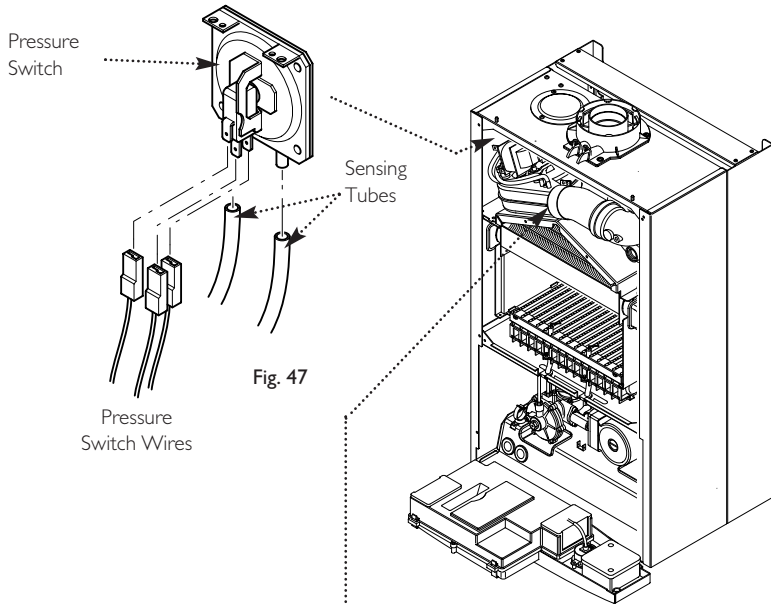

Fig. 47
12.2 Pressure Switch (Fig. 47)